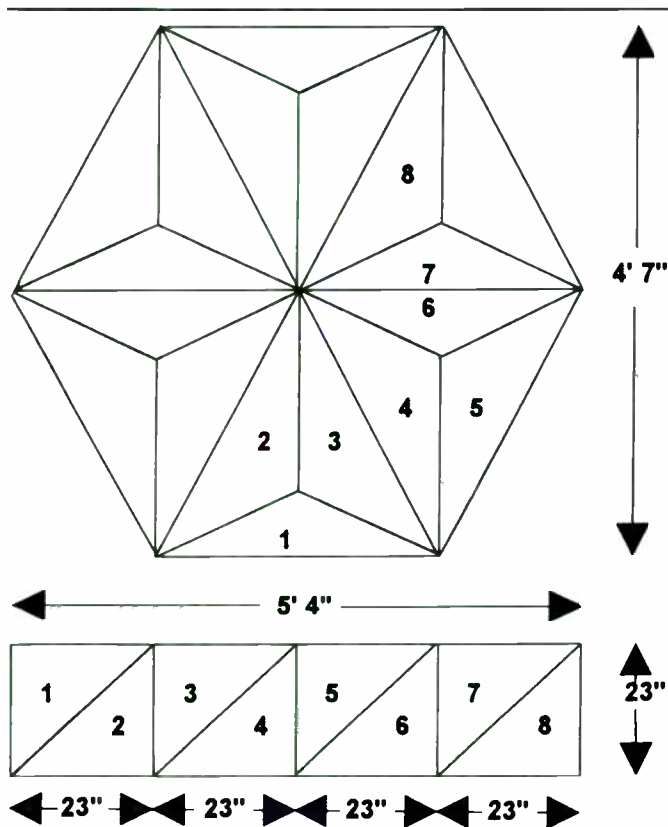

FIGURE 3: Geometric star diffuser made from 23" x 23" x 1/2" plywood squares cut into isosceles triangles, each with 23" legs and a 32" hypotenuse.
**REAR WALL DIFFUSER.** I attached a geometric diffuser to the center of the rear (or south) wall of the listening room. This structure, which is located right behind the listening position, is shown in Fig. 3 and the photo. It is constructed of 18 isosceles triangles made from 1/2" plywood. I elected to use 23" x 23" squares to minimize waste and because the project required only slightly more than one sheet of plywood.